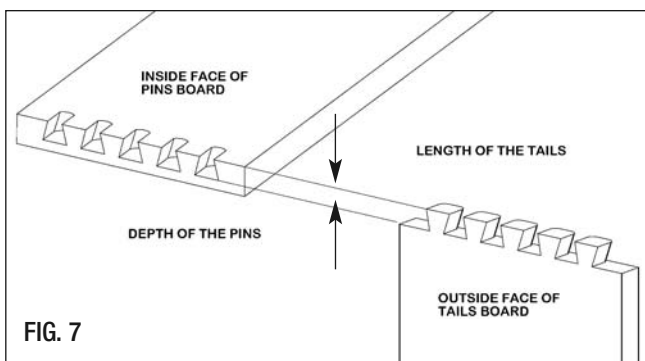

FIG. 7
3. FIG. 7 shows the dimension of the dovetail joint affected by the cutter height.
1. When cutting a half-blind dovetail joint, using the included dovetail cutter, start with a bit height setting equal to the depth of the joint you desire. (FIG. 7)